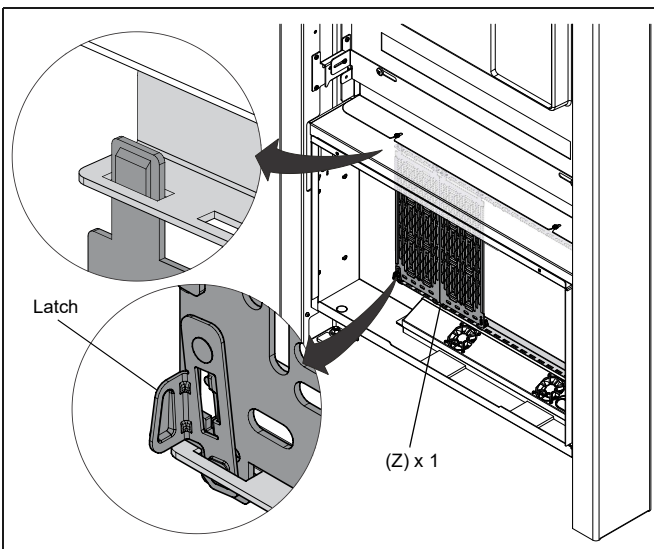

Figure 14
1. Squeeze the spring-loaded latch on lower end tabs of the storage panel (Z) and slide the panel up and out of the slots on the rear frame. (See Figure 14)
3. Pivot panel in and slide it down toward the slots on lower side of the rear frame panel opening. The panel will snap into the slots, securing it to the rear frame. (See Figure 14)